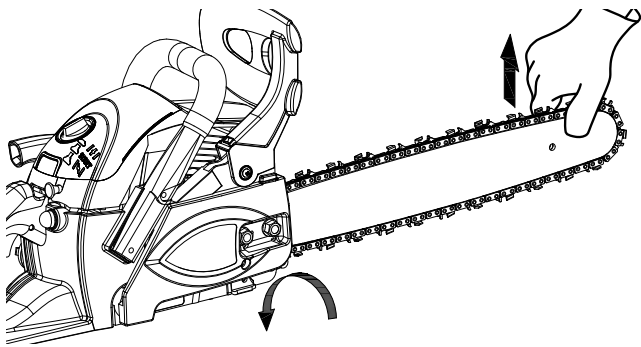

Fig. 28
3. Wearing protective gloves, hold the guide bar tip up, grasp clutch cover and wiggle it loose (Fig. 28).